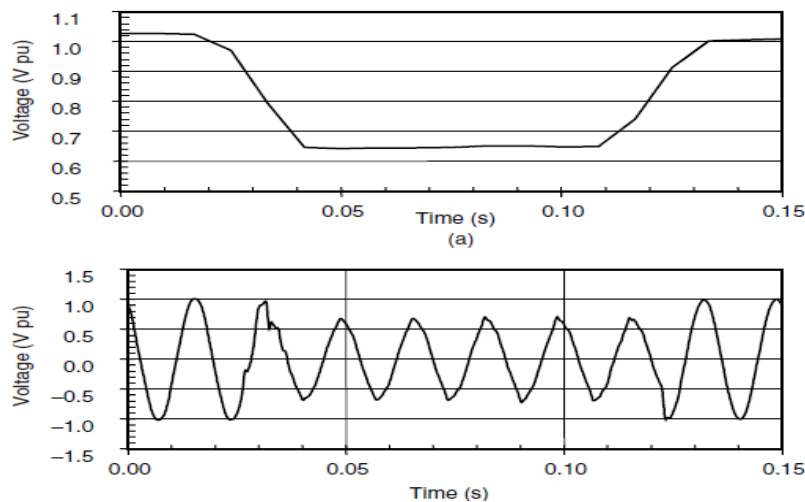

Fig 2.6 Voltage sag caused by an SLG fault. (a) RMS waveform for voltage sag event. (b) Voltage sag waveform.
- As shown in the Fig 2.6(b) An 80 percent sag exists for about 3 cycles until the substation breaker is able to interrupt the fault current. Typical fault clearing times range from 3 to 30 cycles, depending on the fault current magnitude and the type of overcurrent protection.